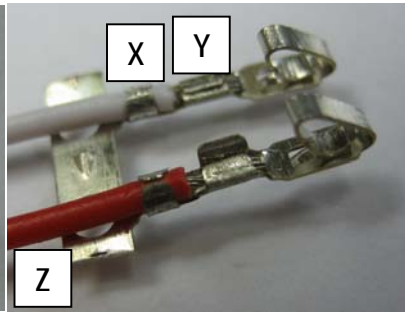

Fig 16b
- Then crimp (or squash) the leads within the connectors (see white wire in Fig 16b) with a pair of pliers. After positioning the lead correctly, first fold over one side of the clip onto the lead’s plastic coating. Then fold over the other side and squash to tighten (X). Repeat the same procedure with the other part of the clip but this time tightening the clips over the bare wire (Y).